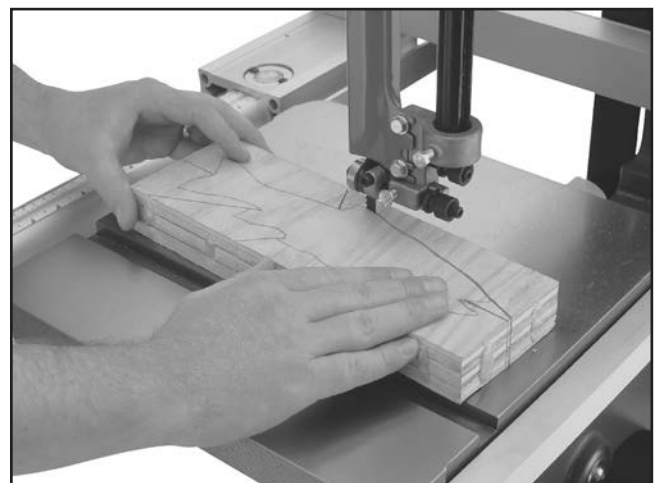

Figure 45. Typical stacked cut.
5. Cut the stack of pieces as though you were cutting a single piece. Follow your layout line with the blade kerf on the waste side of your line as shown in **Figure 45**.